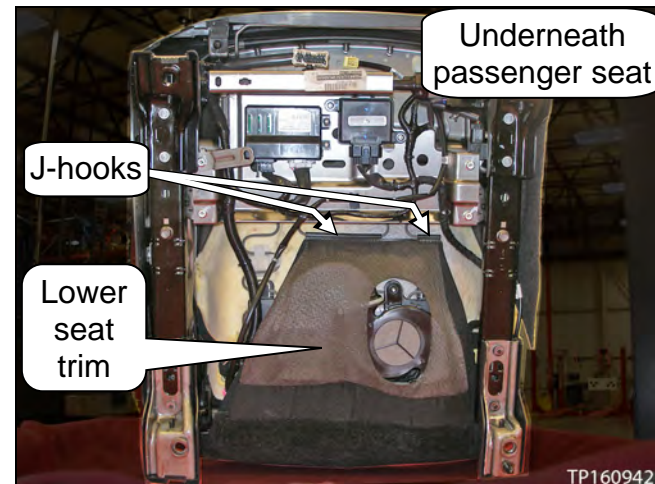

Figure 3
1. Climate controlled passenger seat: Unhook the J-hooks (see Figure 3).
- Figure 3 shows a typical climate controlled passenger seat. Your vehicle’s seat configuration may differ slightly.